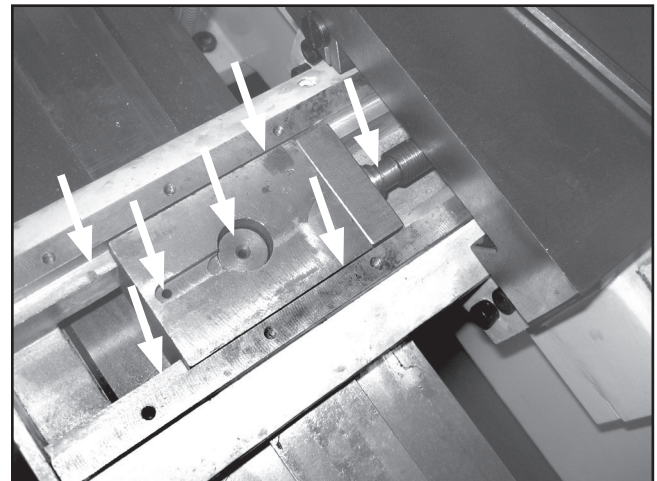

Figure 14. Setup lubrication locations.
- Liberally apply drops of oil at the locations shown in **Figure 14**.